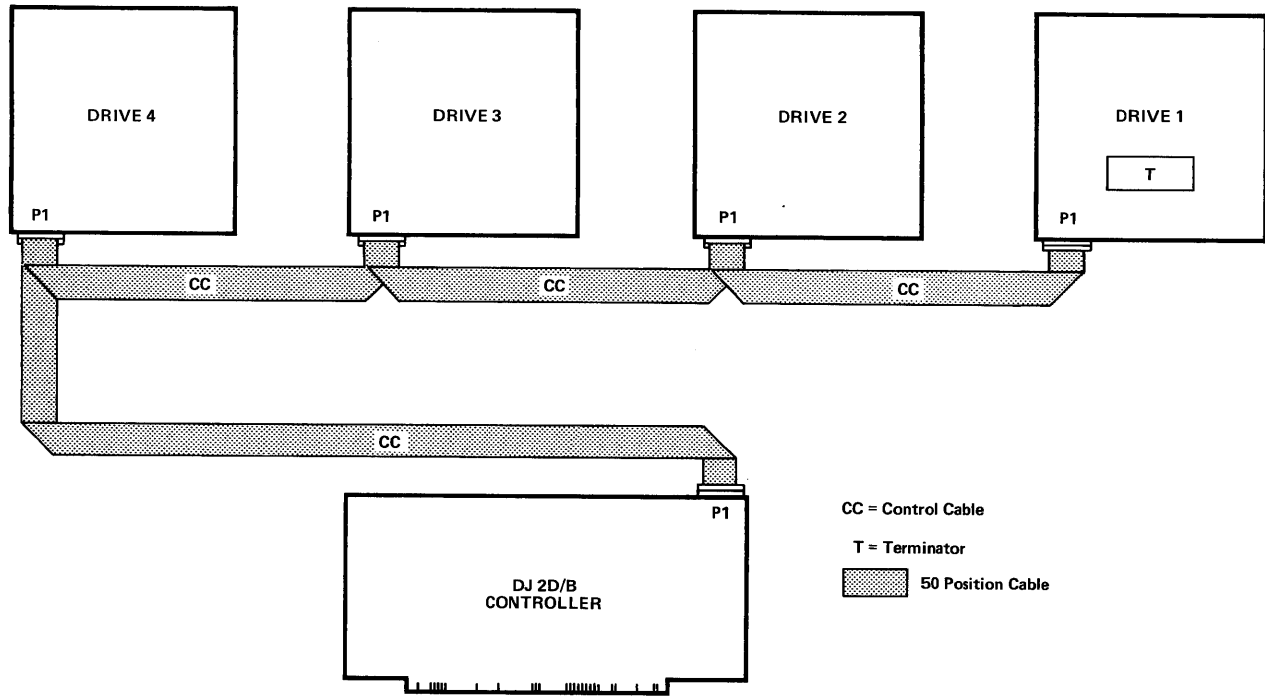

Figure 3-8: Drive Connection
1. Locate the 50-pin socket on the left side (rear view) of the DJ2D/B board labeled P1 (see Figure 3-8).
2. Connect a 50-pin cable to P1 on the DJ2D/B, matching pin-1 on the connector to pin-1 on the socket. Connection is correct if ribbon leads down and toward the back panel (see Figure 3-8).
Multiple drives are connected to the DJ2D/B in a daisy chain fashion (see Figure 3-8). As illustrated, Drive D is located at one end of the cable and is the only terminated drive on the cable. The drive at the END of the cable is the only one which must be terminated (regardless of selection). The location of any additional drives on the cable is not important as long as they are not at the end of the cable. Again, extra drives are not terminated (see Appendix A for location of drive terminators).